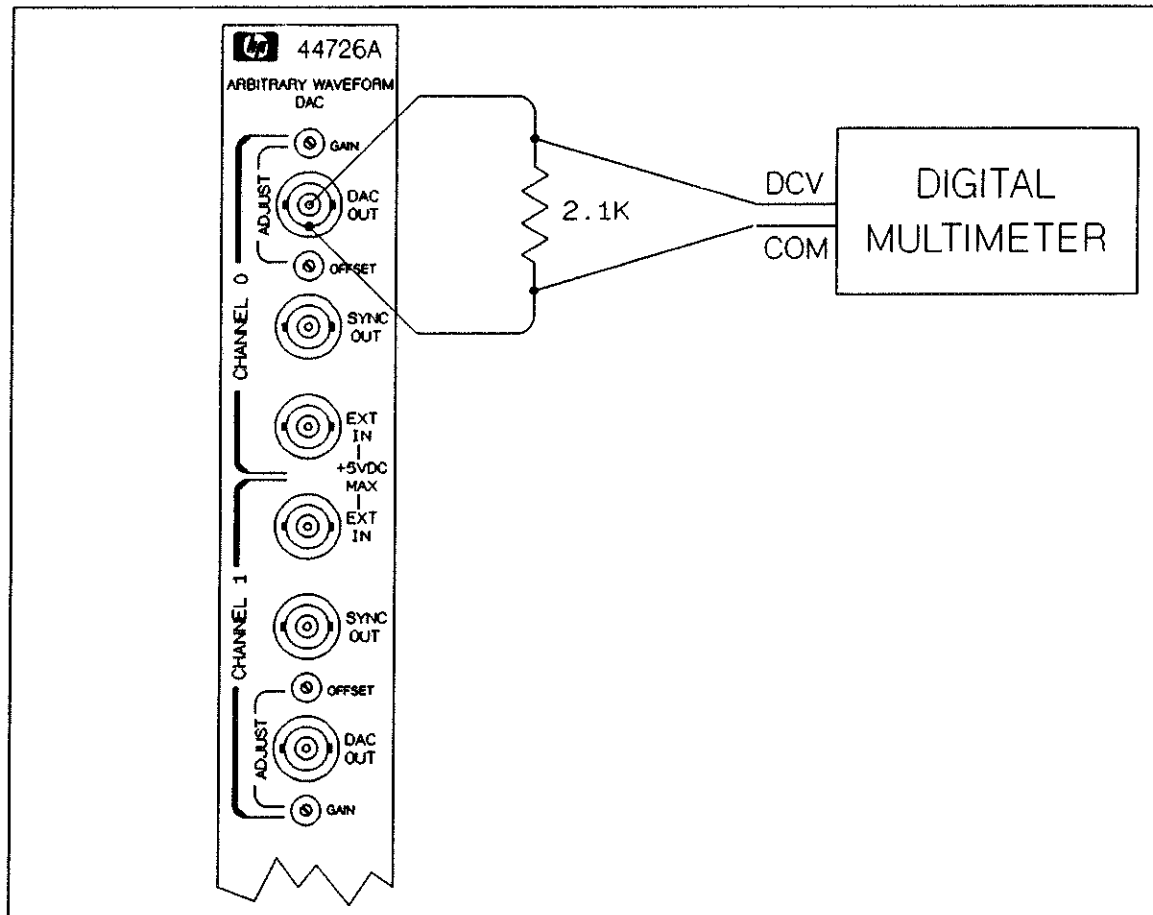

Figure 21-14 Channel 0 Full Load DC Volts Test Connection
9. Refer to Figure 21-14. Connect the digital multimeter to the accessory's DAC OUT connector on channel 1.
10. Connect a 2.1 kohm resistor across the channel 0 DAC OUT connector, as shown in Figure 21-14.